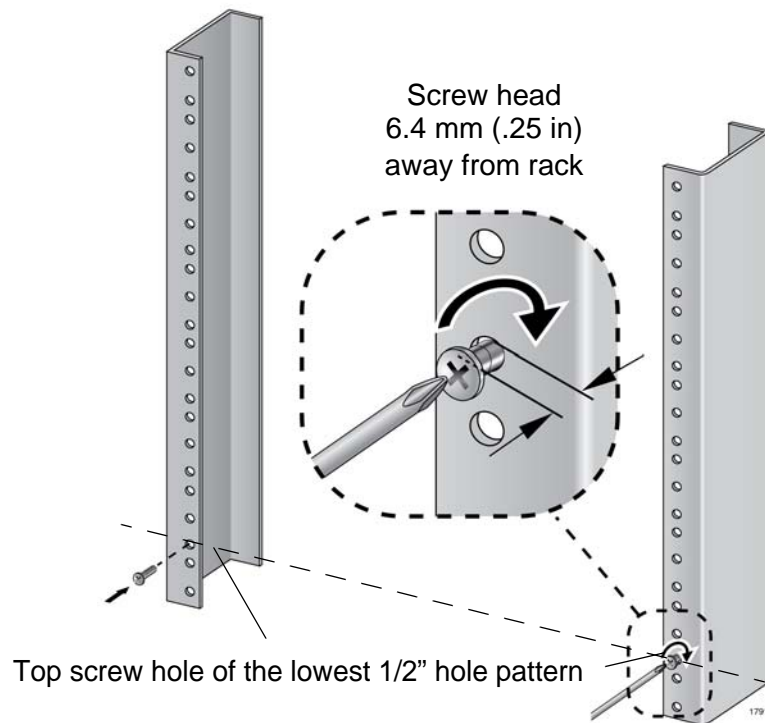

Figure 41. Rack Mounting Hole Locations
4. Install one rack mount screw in each vertical rail, at the same height in the top screw hole of the lowest 1/2" hole pattern, as shown in Figure 41 on page 103. The screws are used to support the chassis while you secure it to the rack. Do not fully tighten the screws at this time. The screw heads should protrude from the rack approximately 6.4 mm (.25 in).